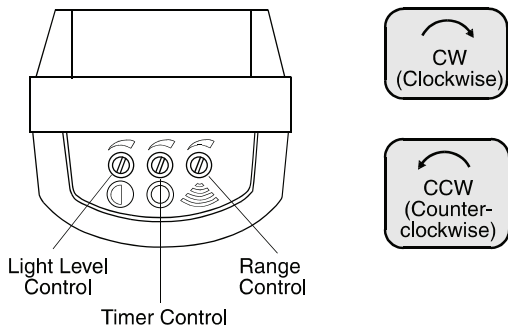

Figure 6. Adjustments
is detected. For time adjustment, see Figure 6. The time is increased when you turn the control clockwise (CW).
No, the **GL** has a day/night photocell sensor designed to enable the unit during dark hours only (see Figure 6). A light level control allows you to select the ambient light conditions at which the GL will be automatically enabled. Turning the control counterclockwise (CCW) will shift the "activation threshold" closer to total darkness.
- Set the timer control to minimum (max. counterclockwise - see Fig. 6), to obtain an operating time of about 4 seconds.
- Rotate the light level control maximum clockwise (Fig. 6), to make the unit operate during daylight hours. This temporary setting is necessary for walk testing.
- Set the range control maximum clockwise to obtain maximum range (Fig. 6).